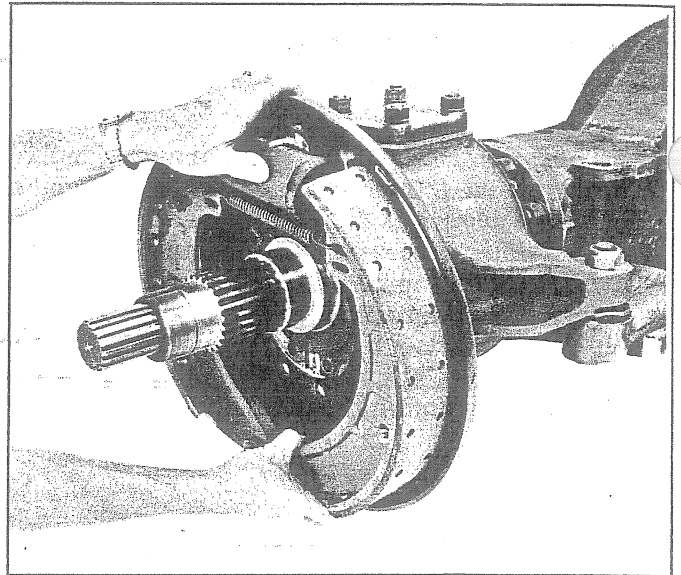

Fig. 10 - Removing Brake Backing Plate
11. Remove brake backing plate as shown in Fig. 10.